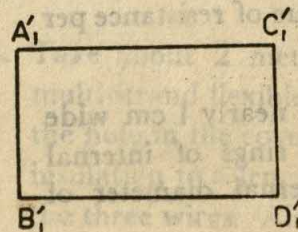

FIG. 2.4.5
5. Take an aluminium sheet 30 cm $\times$ 20 cm and 0.15 or 0.2 cm thick for making a reflector. Bend it gently by applying equal force on edges A_1C_1 and B_1D_1 such that the direct distance between the two ends A_1 and B_1 is the same as in case of the cover already prepared. Figs. 2.4.5 and 2.4.6.